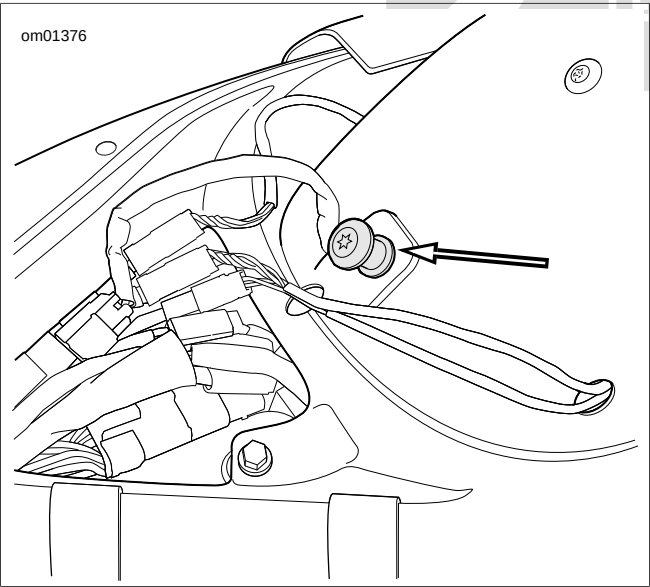

Figure 2-223. Seat Post: XL Models
3. See Figure 2-223. Lift up slightly to detach keyhole bracket from seat post.